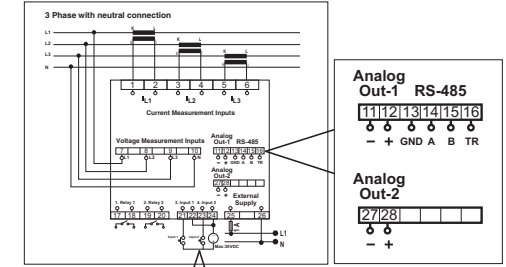

Figure 1
**Note: For 3 phase with neutral connection (Figure1) the neutral must be connected; otherwise the device will not function.**